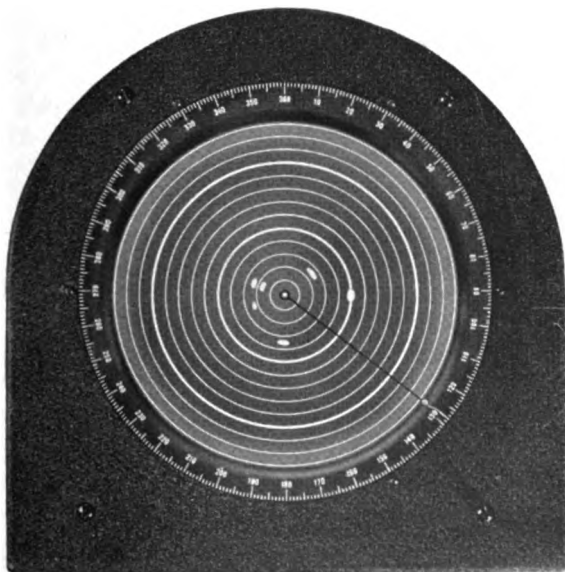

Figure 6. PPI scope pattern.
b. Figure 6 illustrates the face of the plan position indicator (PPI) tube used in the set. The rim
of 10 miles on the 120-mile range. Thus, a bright spot located midway between the second and third rings, counting from the center, would represent a target 25 miles from the equipment. The PPI tube illustrated in figure 6 shows several targets, the farthest being about 50 miles from the equipment and in a direction 90° from the reference direction.